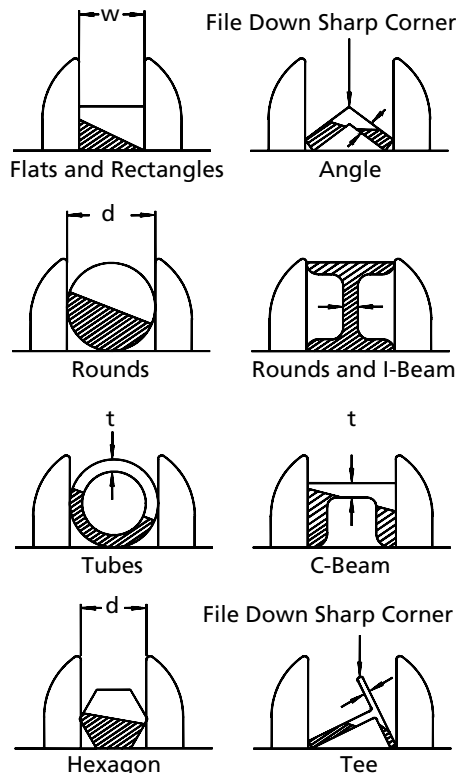

Figure 6 – Clamping Configurations and Thickness Average Calculation
Refer to Figure 6, page 6.
1. The workpiece should rest flat on the workbed without the need for side support. Some suggested configurations are shown in Figure 6, page 6.
- Flats and rectangles have thickness averages of w (See Figure 6).
When choosing a blade, overall size of the work is not as important as the thickness average. Thickness average (w , d or t) is the average width of material which blade will contact during each cut. Figure 6 describes how thickness average should be calculated.